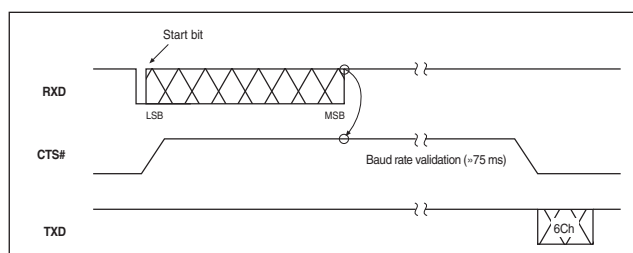

Figure 3. Baud Rate Detection Timing
**Note** The measurement cycle ends when there have been no High-to-Low nor Low-to-High transitions on the BRD pin for 75 ms or longer. Consequently, the RC8650 will ignore any data sent to it for a period of 75 ms after the “lock-on” character has been received. The CTS# pin is driven High during this time, and the acknowledgment character is not transmitted until the RC8650 is actually ready to accept data. See Figure 3.